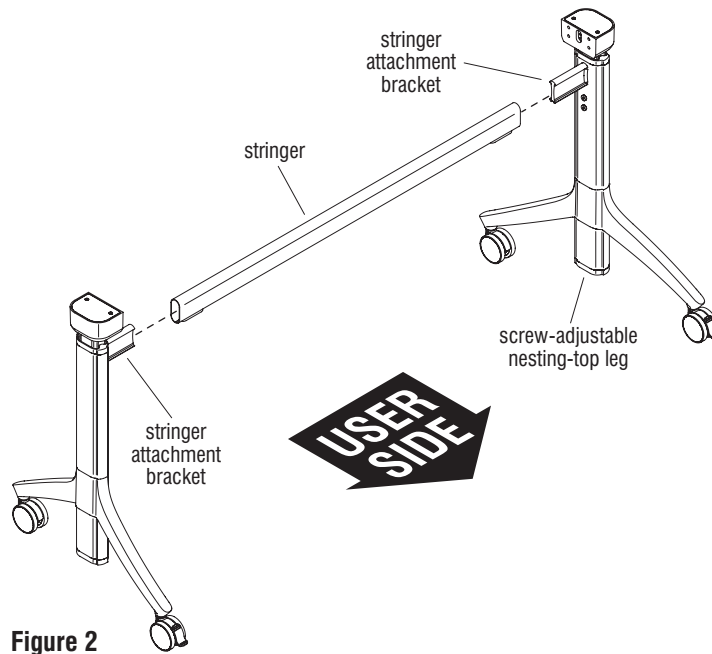

Figure 2
8. Orient the stringer so the side with two mounting holes on each end is on the underside of the stringer (Figure 2).
9. One leg at a time, insert the stringer attachment bracket into an available open end of the lower stringer, making sure the mounting holes are on the bottom of each end of the stringer. If the stringer is not positioned correctly for installation, disassembly and reassembly will be required (Figure 2 & Detail B).